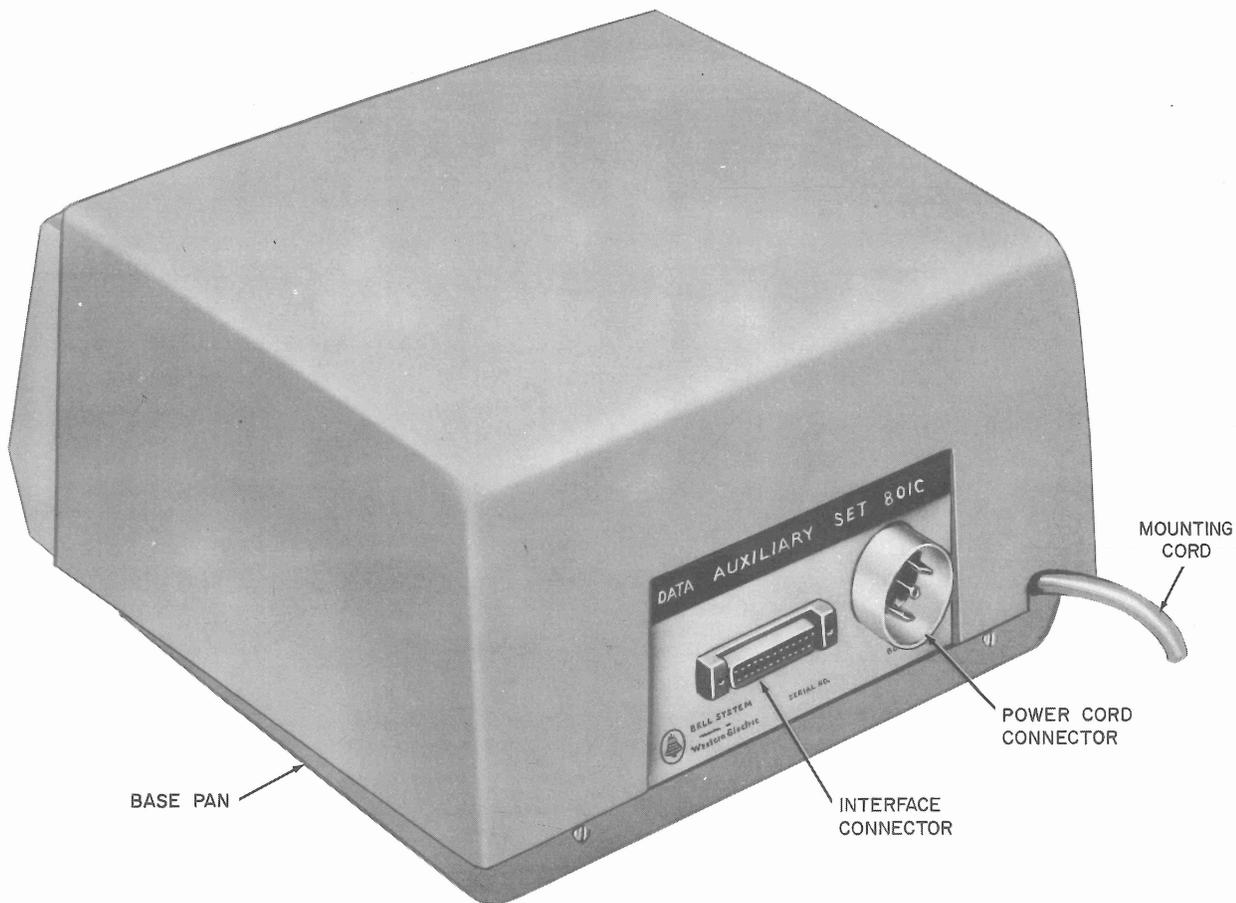

Fig. 2—Data Auxiliary Set 801C3 or 801C4—Rear View
2.03 The cord and connector required for connecting the business machine to the ACU interface is supplied by the customer. This cord should not exceed 50 feet in length and should be equipped with a plug that mates with the KS-19087-L6 connector on the ACU. For the location of this connector, refer to Fig. 2.